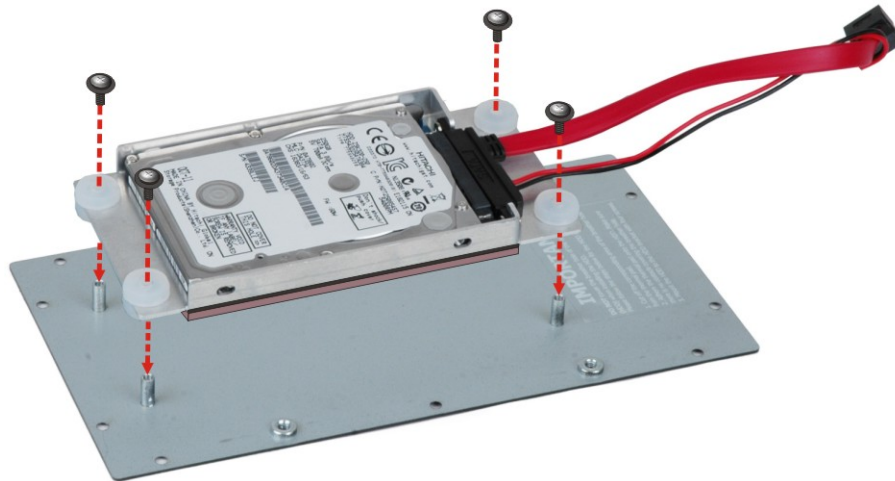

Figure 3-7: HDD Installation
Step 8: Reinsert the four previously removed retention screws (**Figure 3-7**).